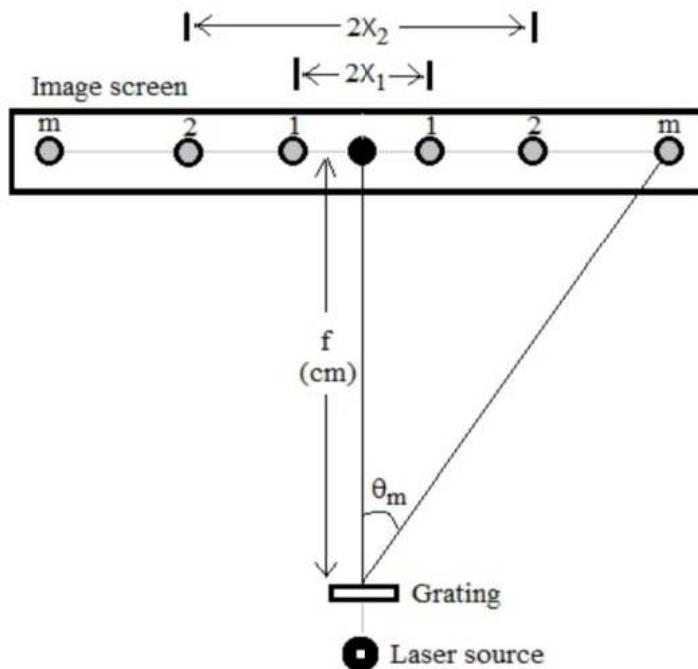

Fig. 5.2: Diffraction spot pattern and measurements.
4. Note down ' $f$ ' in centimeters. In the graph sheet over the image screen, mark the spots  $m = 1$  and  $2$  on either sides of the central spot ( $0^{\text{th}}$  order spot) as shown in Fig. 5.2 corresponding to the  $1^{\text{st}}$  and  $2^{\text{nd}}$  order diffractions, respectively.